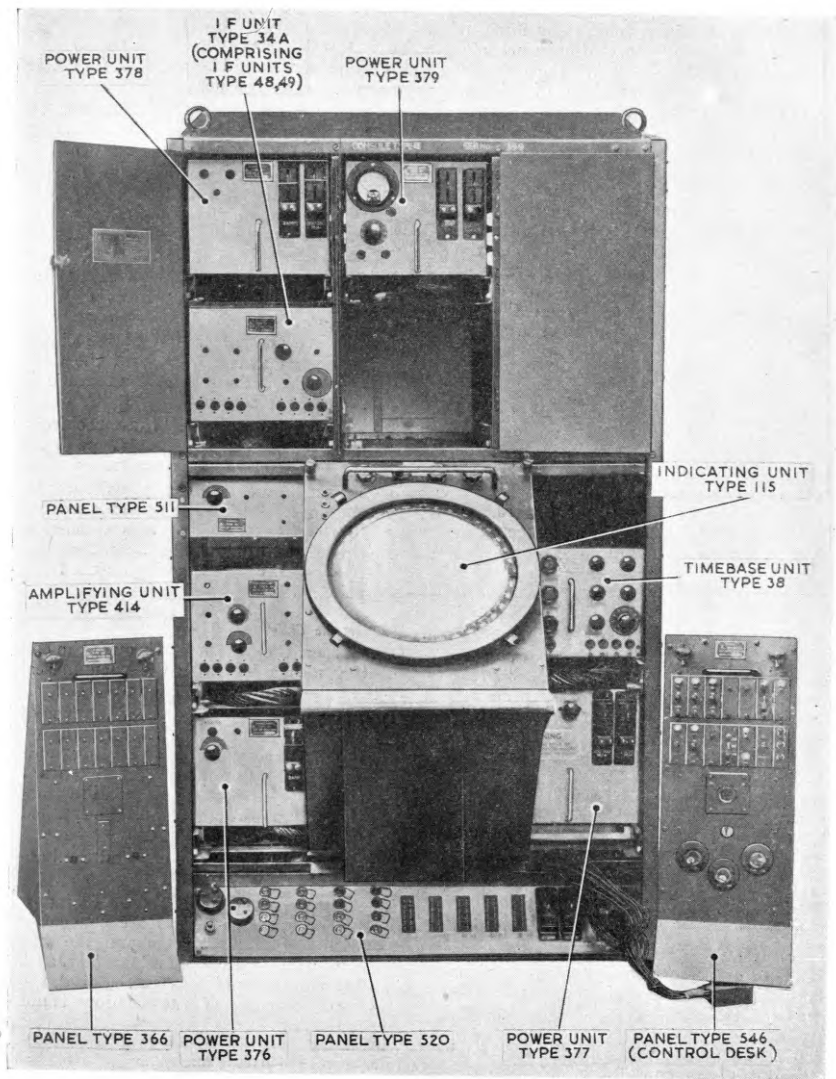

Fig. 28. Console No. 1 (Type 16C)
**96.** Console 1 (console Type 16C) (*fig. 28*) provides :—
- (1) Remove the HT fuses from power units Type 378 and 379. The right-hand fuse box in each power unit holds the HT fuses: in power unit Type 378, both fuses should be removed, whilst in power unit Type 379, only the 500mA fuse should be removed (*fig. 28 or 29*).
- (2) Switch on the console with the control desk ON-OFF switch, and wait for 30 seconds.
- (3) Turn the BRIGHTNESS control (indicating unit Type 115 front panel) until an unfocused spot appears in the centre of the CRT. Mark the position of the spot on the screen.
- (4) Switch off the console and replace the fuse in power unit Type 379. Be careful to fit the fuse carrier the right way up as it is possible to interchange the fuses.
operation is controlled by a switch on panel Type 511 (*fig. 28 or 29*) which has four positions, viz. :—L.P.O.—T11—T13—T14.
- (1) Replace the X and Y links in the shift circuit (*para. 106*).
- (2) Replace the fuses in power unit Type 378, and switch on the console.
- (3) If the start of the time-base trace is well off centre, it will be necessary to reverse one or both of the links X and Y. Bring the start of the trace to the geometrical centre of the tube (the station position indicated by the grid lines on the window) using the X SHIFT and Y SHIFT controls.
- (4) Monitor the cathode current of stabilizer valve V3 in power unit Type 379. To do this, set the METER switch on power unit Type 379 to position 11 and insert one end of the monitoring lead into the meter socket; insert the other end of the lead into socket V3C of power unit Type 378. The meter reading should be 0.4mA. If it is not, withdraw power unit Type 378 and adjust the pre-set control just behind the front panel until the reading is correct. This operation should not be done until the equipment has been switched on for at least two minutes.
- (5) Turn the MOD AMP and SET LIMIT controls, at the left-hand rear of indicating unit Type 115, fully clockwise, and then turn them back a quarter turn.
- (6) Switch on the CAL key on the control desk.
- (7) Lower the right-hand control desk to expose timebase unit Type 38 (*fig. 28 or 29*) and adjust the SYNC control (top right knob) on that unit so that a steady trace appears on the indicating unit.
**111.** Three ranges are available. The general requirements of the equipment are for timebases corresponding to 30, 60 and 90 miles in length on ranges 1, 2 and 3 respectively. The required range is selected with the RANGE key on the control desk (*fig. 28 or 29*). The timebases are adjusted by means of the VELO, LIN and RANGE potentiometers on the front panel of time-base unit Type 38. There are three controls for each range.
- (1) Switch on the CAL key on the control desk, and set the RANGE key to the range to be calibrated.
- (2) Adjust the RANGE control on the time-base unit until the required number of calibration pips appears on the time-base (e.g., six pips on range 1, 30 miles).
- (3) Adjust VELO and LIN controls until the first, centre and last pips lie on the appropriate range circles on the tube.
- (4) Repeat the three operations for the other two ranges.